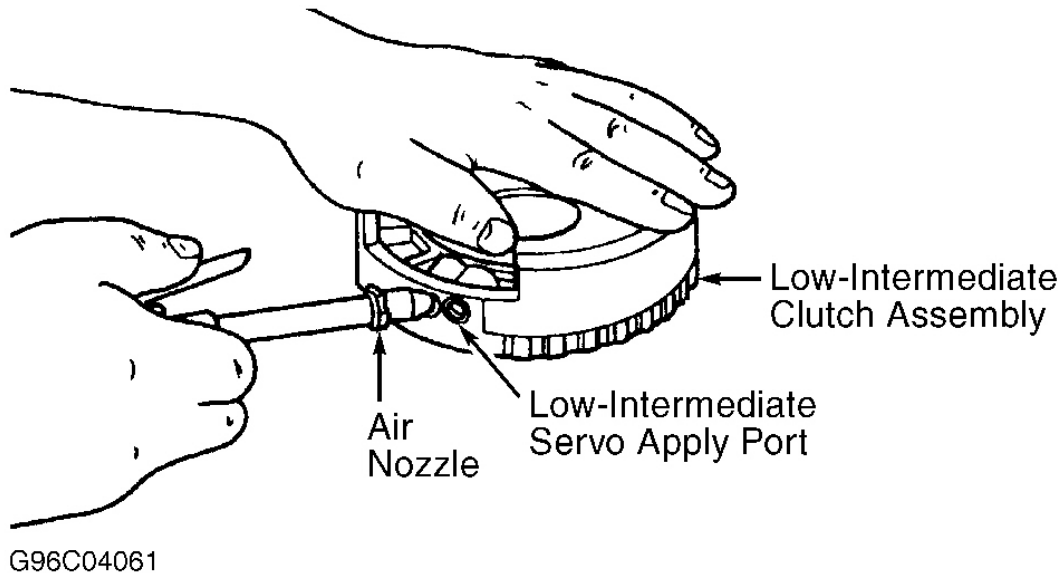

Fig. 32: Removing Low-Intermediate Clutch Piston
2. Turn rear planetary support over. Remove No. 16 final drive gear selective thrust race. Using air pressure, apply about 40 psi to low-intermediate apply port to remove piston from low-intermediate clutch assembly. See Fig. 32. Using slide hammer puller, remove two rear lube oil transfer tube oil seals.